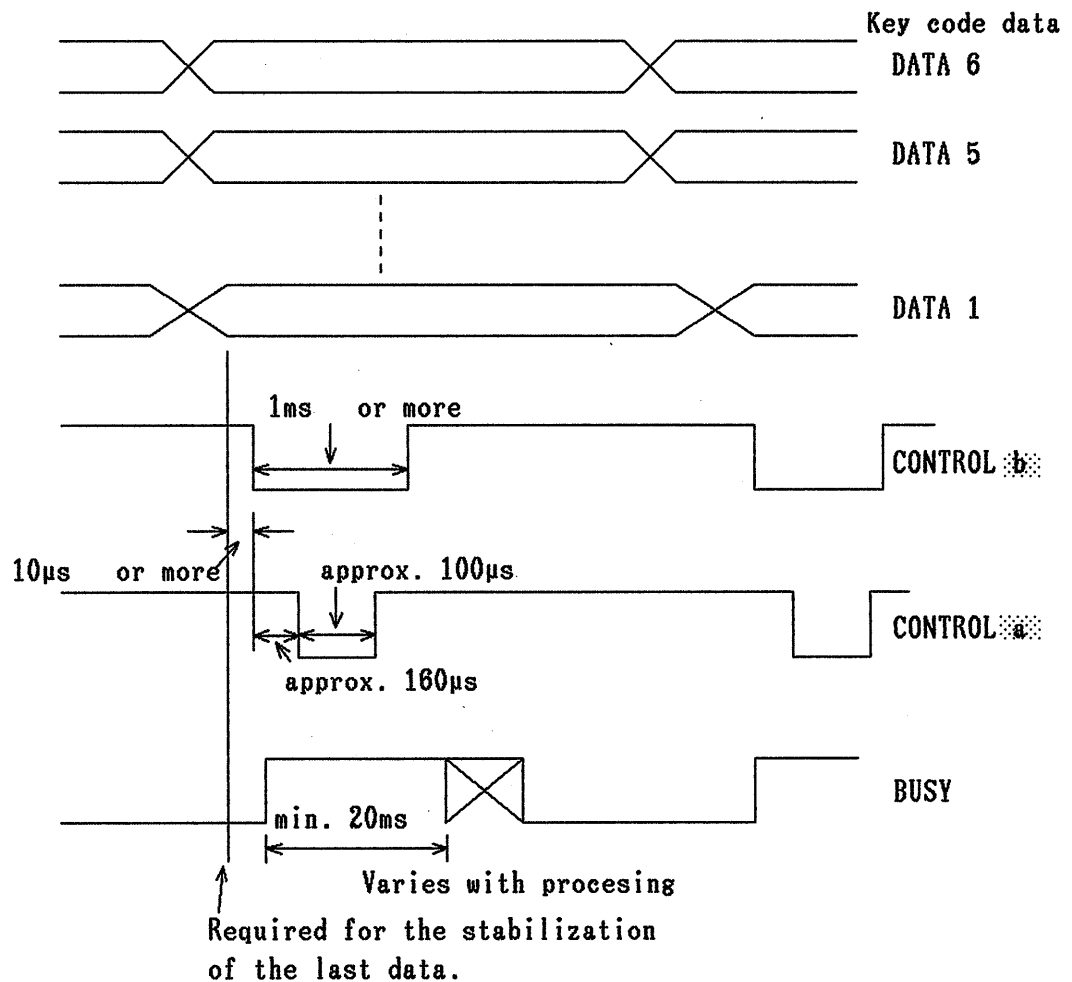

Figure 5-2
Then, set CONTROL **b** to "0" for 1ms or longer as shown in Figure 5-2.
- 2) Send CONTROL  which is set to "0" for 1ms or longer as shown in Figure 5-2 (input data timing).